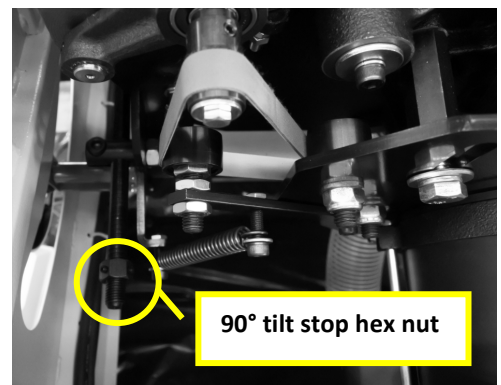

Fig. 54
9. If variations exist, adjust the 45° tilt stop hex nut until the blade and square match. (Fig. 54)